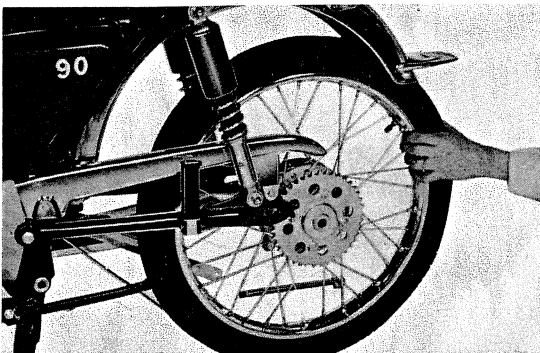

Fig. 111 Rear wheel removal
- 6) Remove the rear wheel. (Fig. 111)